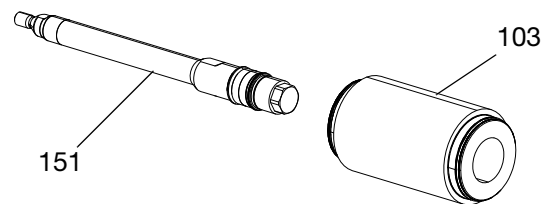

FIG. 14
9. Remove displacement rod (151) from pump cylinder (103). See FIG. 14.